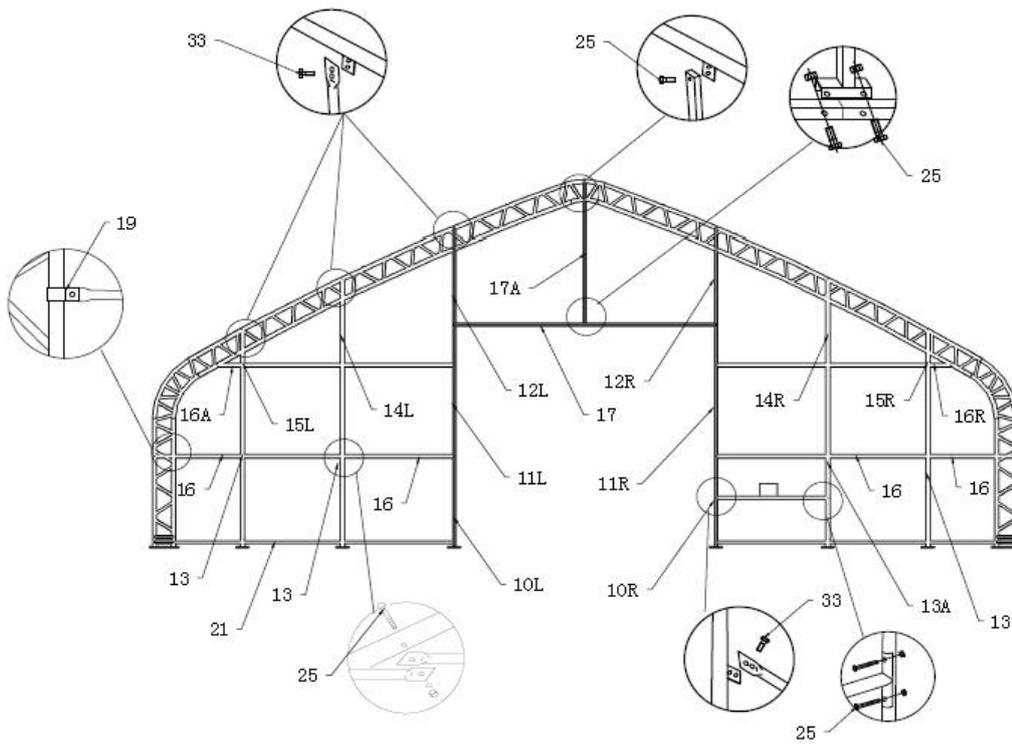

Figure 5
1. Inset the tubes in door (Part NO.26) into front and back Mechanical door through the pockets on covers (see Figure 5), assemble the front door by using Bolt 10x90 (NO.25), and Clip (No.19), make the cover well fold to the frame and tension the cover, finally tidy the front door covers by using Rope (No.29).